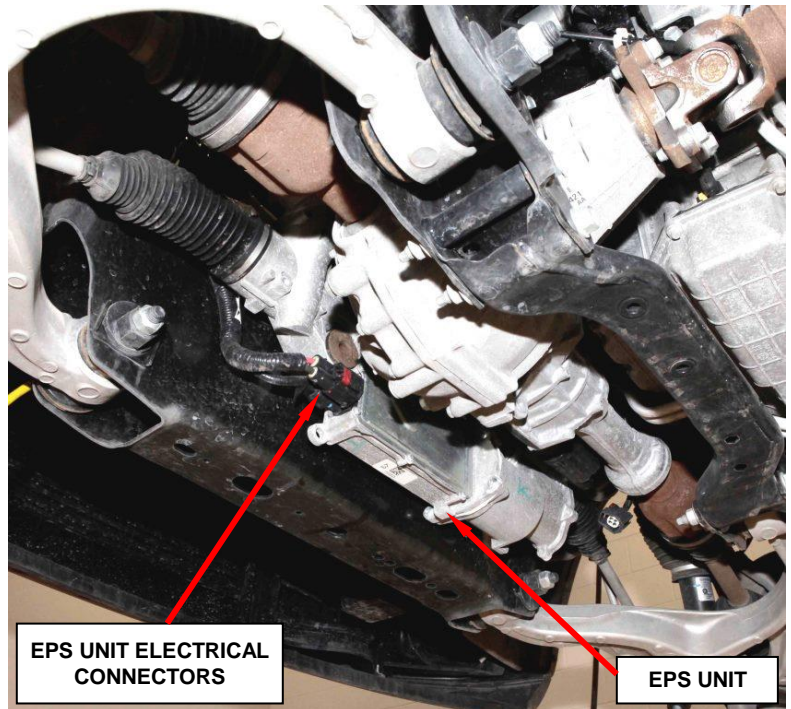

Figure 3 – EPS Unit Electrical Connectors
12. Disconnect the two electrical connectors located at Electric Power Steering (EPS) unit (Figure 3).